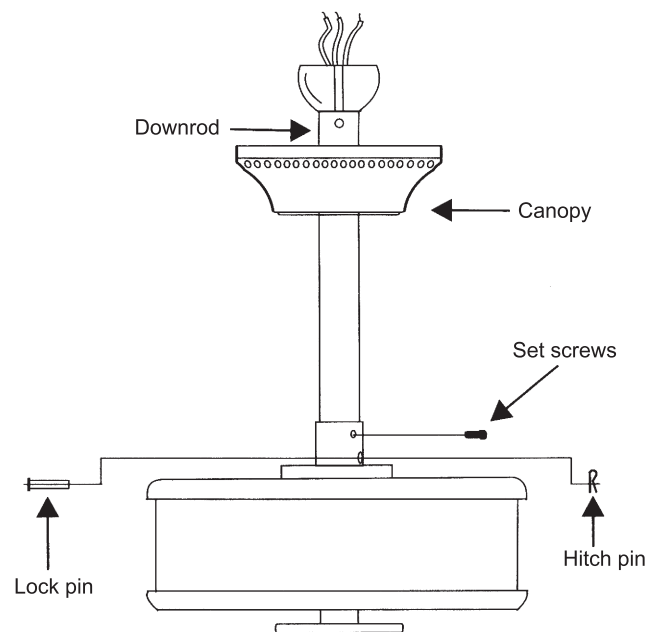

Figure 7
**Step 5.** Route wires exiting from the top of the fan motor through the canopy and then through the ball / downrod. (Fig. 7)
**Step 6.** Align the holes at the bottom of the downrod with the holes in the collar on top of the motor housing (Fig.7). Carefully insert the hanger pin through the holes in the collar and downrod. Be careful not to jam the pin against the wiring inside the downrod. Insert the locking pin through the hole near the end of the hanger pin until it snaps into its locked position. (Fig. 7.)
**Step 7.** Tighten two set screws on top of the fan motor firmly. (Fig. 7)